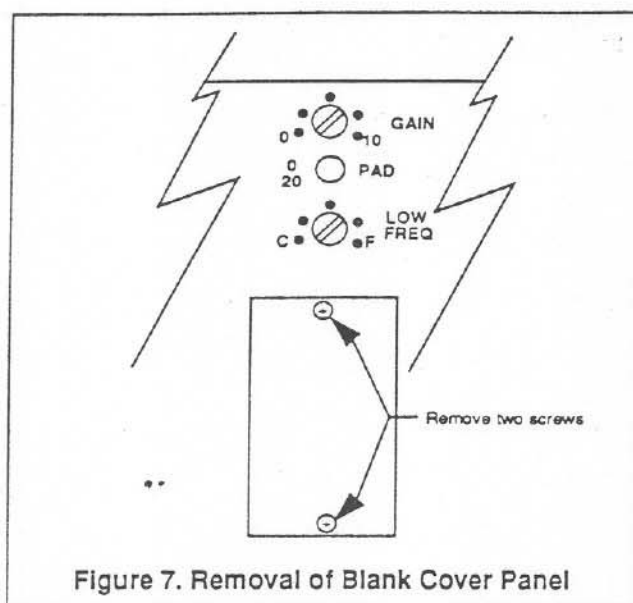

Figure 7. Removal of Blank Cover Panel
- Remove the blank cover panel as shown in Figure 7. Then install the selected connector assembly with the screws that were supplied with the assembly. Plug the connector into its appropriate mate on the module (J1 or J2 as shown in Figure 1B on page 8).